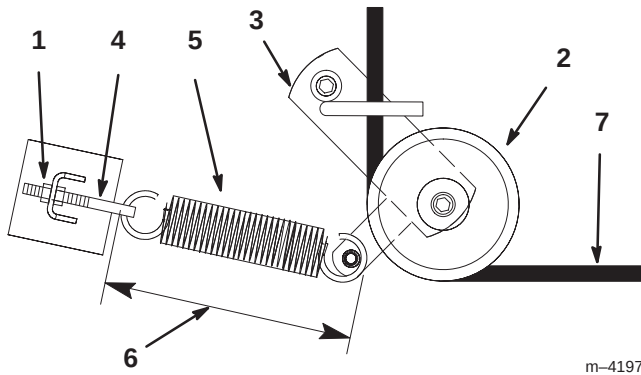
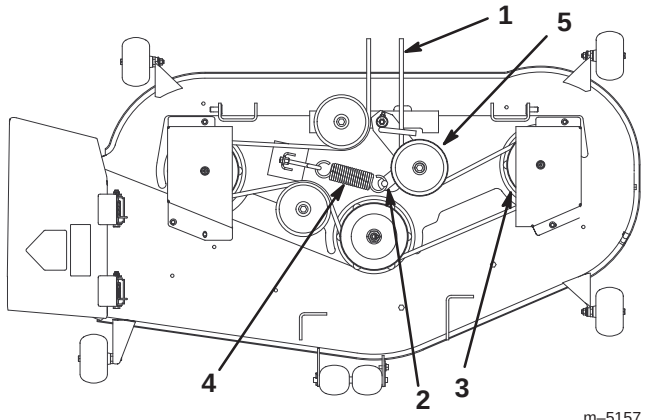

Figure 41
Figure 42
4. Loosen the outer nut on the spring eye bolt (Fig. 41) enough to allow removal of the belt.
5. Remove the belt. Start at the outside pulley and rotate the belt off (Fig. 42).
6. Route the new belt through the idler arm (Fig. 41) and onto the other pulleys (Fig. 42).
7. Tighten the outer nut on the spring eye bolt (Fig. 41).
Note: Check the spring length. The spring should measure 9-3/8 in. $\pm$ 1/8 in. (238 mm $\pm$ 3 mm) when installed with the height-of-cut set at 1-1/2 in. (38 mm). Adjust it if it does not (Fig. 41).